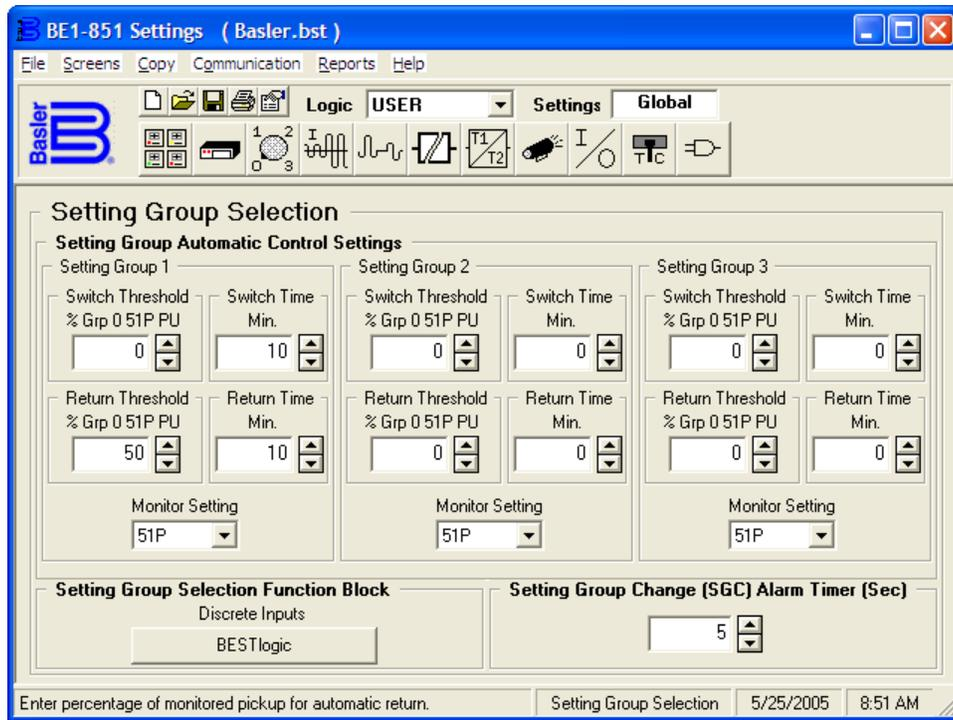
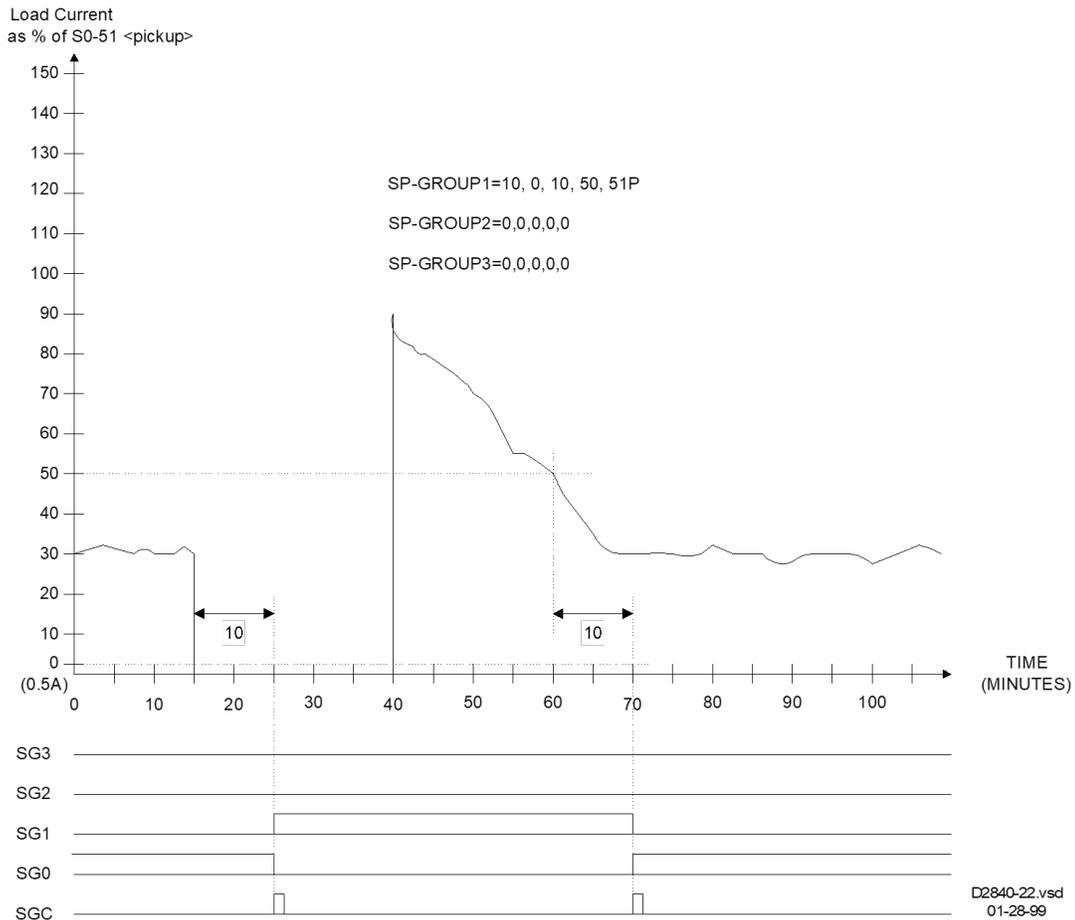

Figure 4-7. Setting Group Selection Screen
Figure 4-8. Automatic Operation Based on Cold Load Pickup
Figure 4-8 shows how the active setting group follows the load current and time delay settings. Figure 4-7 illustrates the operating settings used in the diagram shown in Figure 4-8. Note that the AUTO input must be at a TRUE (1) logic state for the automatic logic to operate. When the breaker opens, the load current falls to zero, time = 15 minutes. After 10 minutes, setting group one becomes active and the setting group change output pulses TRUE. When the breaker is closed, time = 40 minutes, load current increases to approximately 90 percent of pickup. As the load current decreases to 50 percent of pickup, the setting group one return timer begins timing. After ten minutes, setting group one output goes FALSE, the setting group returns to setting group zero, and the setting group change output pulses TRUE.